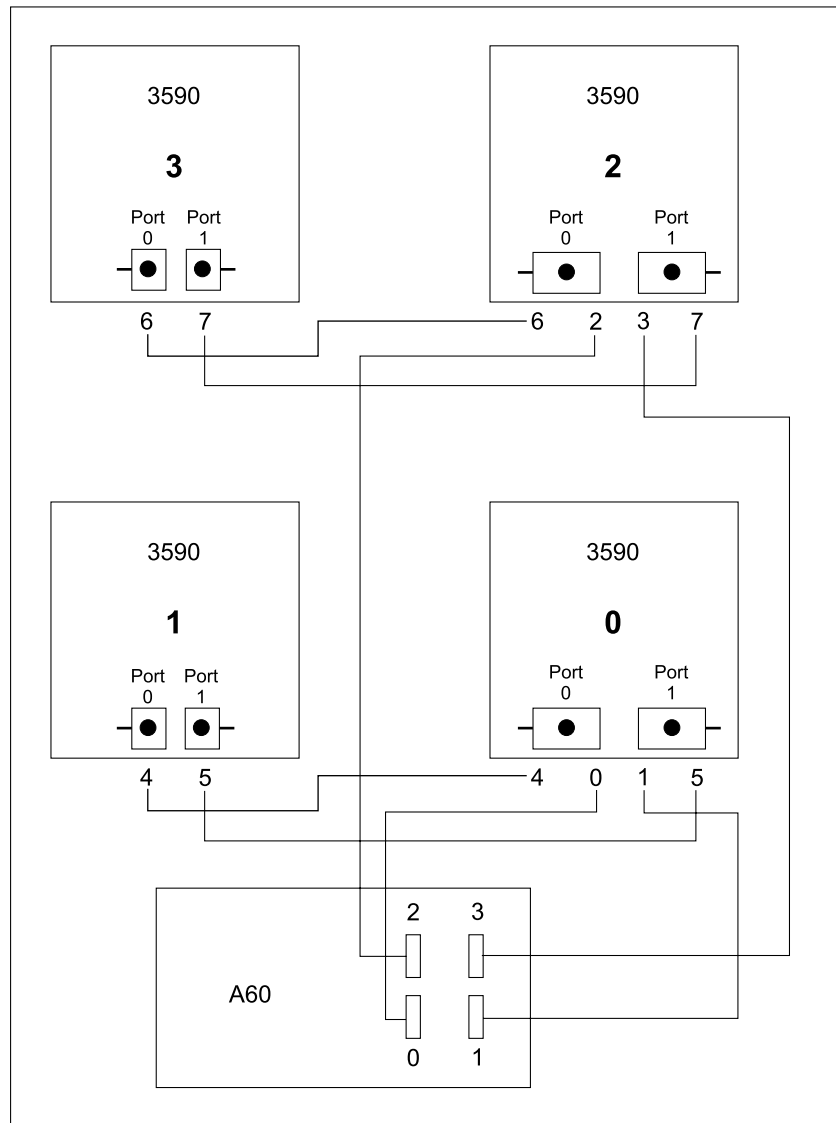

Figure 40. A14 Frame Drive Numbering Convention
The A14 frame may contain any where from 1 to 4 drives. These instructions have been structured to handle the 4 drive configuration. If your A14 contains less than 4 drives, skip the steps not applicable to your configuration. See Figure 40 on page 223 for the drive numbering convention in a A14.
- \_\_\_ Step 10. Any remaining SCSI cables are drive to drive cables. If required, re-label these cables to match the number assignment shown in Figure 40 on page 223.
1. Notice that the new SCSI cable has a different type of connector on each end, the small connector attaches to the A60 Controller and the large connector attaches to the drive. If your A14 frame contains 1 or 2 drives, you will receive a pair of 3.5 meter control unit to drive cables, P/N 09L5107. Label one of these cables 0 and the other cable 1 (place the labels on both ends of the cable). Refer to Figure 40.
2. If you A14 frame contains 3 or 4 drives, you will receive a second pair of new controller unit to drive cables. Label the cables, P/N 05H4650, 2 and 3 (place the labels on both ends of the cable). Refer to Figure 40.